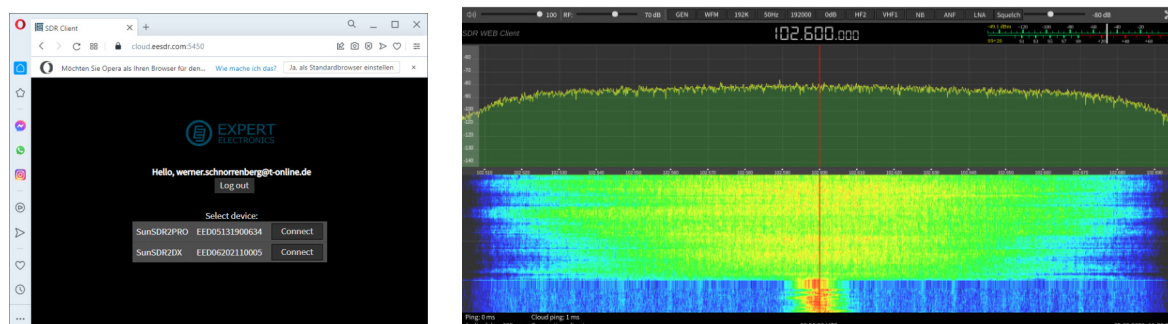

Figure 13: Radio opened via a Web-Browser on PC or Smartphone/Tablet
a) After entering the URL <https://cloud.eesdr.com:5450.auth.html> in a browser (Opera), all radios connected to the cloud are displayed in a menu and can be started via "Connect" (**Fig. 13, left**). Since the connection works via the WEB, Smartphones or Tablets can also be used as clients.